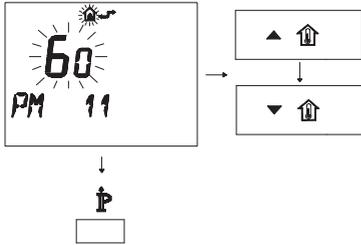

Fig. 7.31
- To modify the programmed SET, act on buttons ▲⏮ or ▼⏮ and wait for the programmed number to flash (Fig. 7.31). Each step increased or decreased corresponds to 1 second.